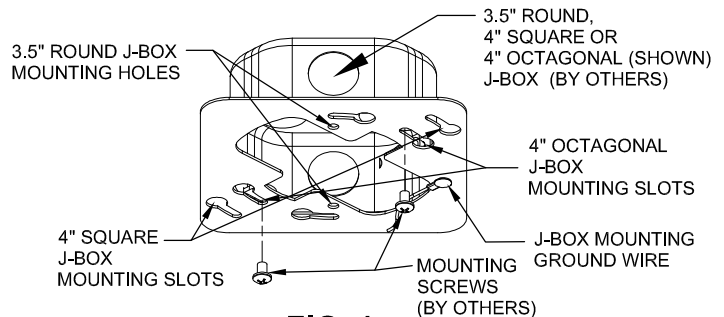

FIG. 1
1. Loosen MOUNTING SCREWS from 4" square and 4" octagonal J-Box. Fully removed MOUNTING SCREWS from 3.5" J-Box. (FIG. 1)
2. Align and secure J-BOX MOUNTING PLATE to J-BOX using MOUNTING SCREWS. Face J-BOX MOUNTING GROUND WIRE downward. Make sure J-BOX MOUNTING PLATE is firmly against the ceiling. Do not overtighten MOUNTING SCREWS, this could distort the J-BOX MOUNTING PLATE. (FIG. 1)